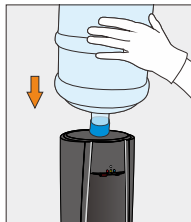

Figure 6
3. Install a bottle of water on the top of the water cooler (Figure 6).